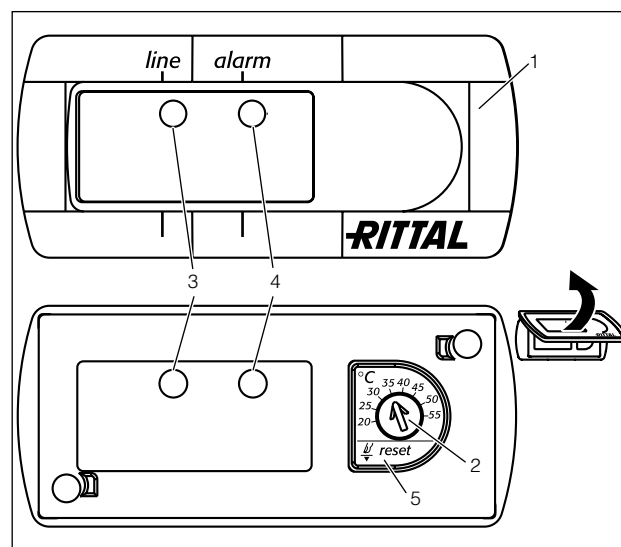

Fig. 14: Basic controller
The Basic controller monitors and controls the air/water heat exchanger. It indicates the operating and error status via the green and red LEDs (Fig. 14, nos. 3 and 4):
- Hold the rubberised potentiometer display (see Fig. 14, item 5, page 17) down while you switch the mains power back on, and keep the button (5) held down for a further 10 seconds (for access to the potentiometer, see also 6.1.3).
- Set the required temperature on the temperature setting device (page 17, Fig. 14).